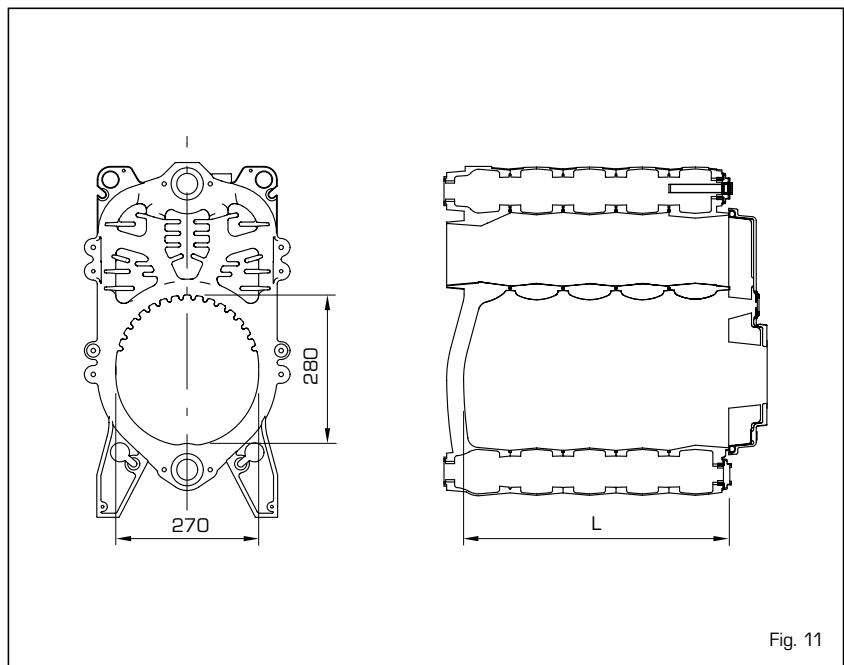

Fig. 11
3.1 COMBUSTION CHAMBER DIMENSIONS (fig. 11)
The combustion chamber is a direct passage type and is conform to the EN 303-3 standard annex E. The dimensions are shown in fig. 11.